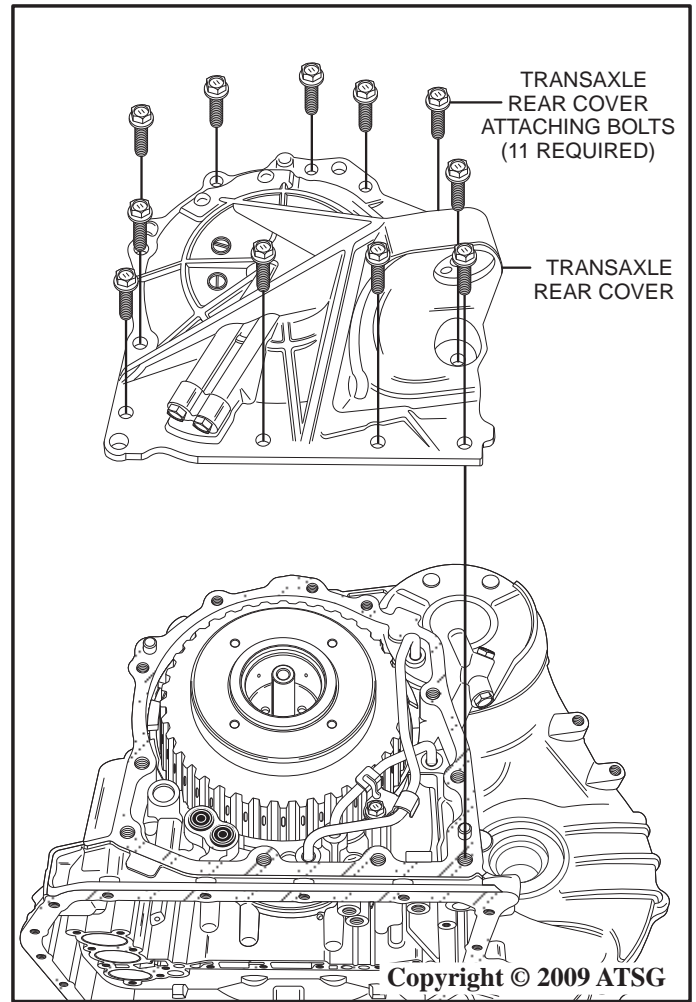

Figure 176
64. Install the transaxle rear cover onto the transaxle case as shown in Figure 176.